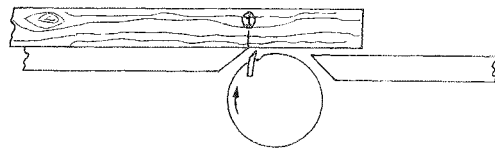

Fig. 3.50 Setting the strip.
3. Place a pencil mark on the strip where it intersects with the back table. Feel free to number or letter the marks as you apply them so as not to become confused when several marks are present (**Fig. 3.50**).